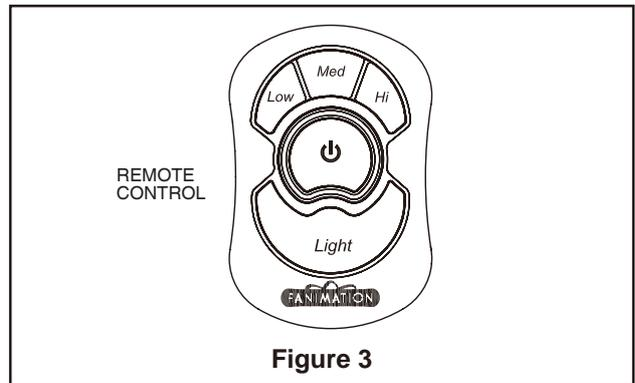

Figure 3
2. Securely attach the ceiling bracket to the ceiling junction box as shown. (Figure 3)
3. Carefully secure the motor assembly onto the mounting slots on ceiling bracket assembly with the upward-clockwise, quarter-turn twist. (Figure 3)
3. Remove the three screws in the motor assembly. Assemble the trim cover onto the motor assembly using the three screws and securely tighten. (Figure 3)
3. Connect the 2 single pin connector from the socket plate assembly to 2 single connector from the switch housing assembly. (Figure 3)
3. The hand-held remote transmitter includes buttons for high, medium and low fan speeds as well as fan off, light on/off and reverse. Infinite light levels are available by holding the light on/off button. (Figure 3)
3. Hook the motor assembly onto the ceiling bracket assembly. Now you can replace the receiver. (Figure 3)